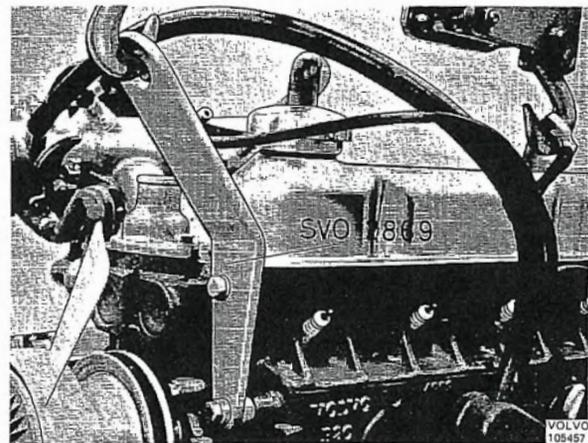
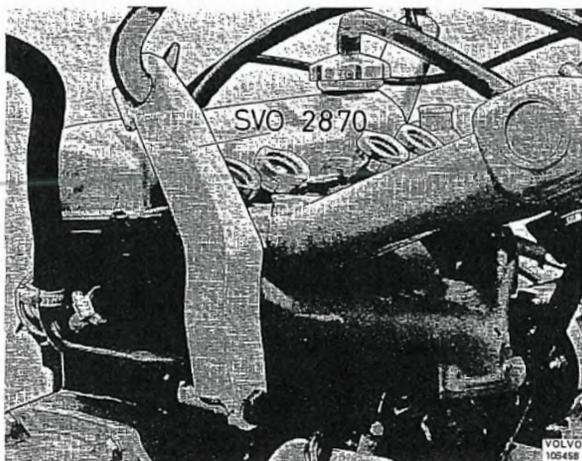

Fig. 2-11. Lifting lug on engine front end
Fig. 2-10. Lifting lug on engine rear end
19. Fit lifting lug 2870 in the rear end of the engine (Fig. 2-10) and lifting lug 2869 in the front end (Fig. 2-11).